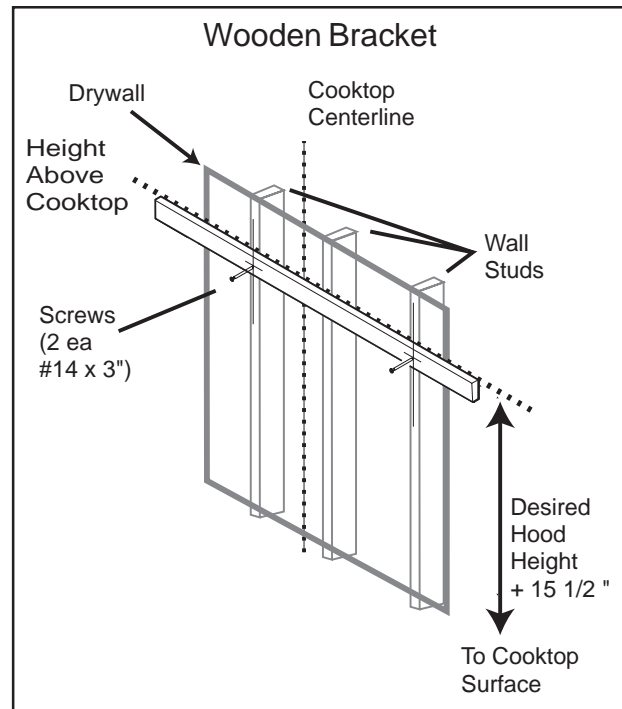

Figure 3 - Mounting the wooden bracket.
4. Locate one stud on either side of the cooktop centerline to use for mounting the wooden bracket as shown in Figure 3.
7. Use 2 or 3 (#14 x 3") screws to attach the bracket to the wall as shown in Figure 3. For support of longer hoods, use three studs. Countersink the heads to prevent interference with the hood.